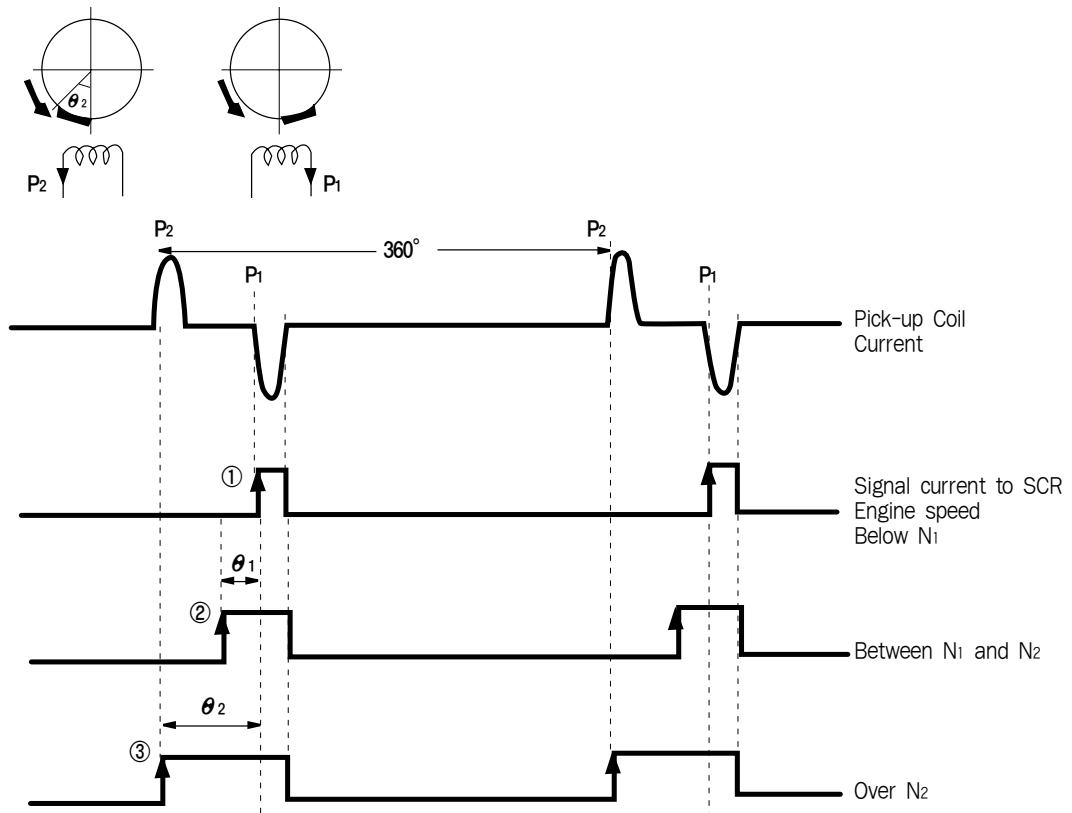

Fig. 2
When the engine is running slowly (N₁ r/min or less Fig. 3), control by the ignition timing control circuit is executed so that the ignition signal is generated at the time ①(Fig. 2) when the current (P₁) is generated and is sent to the (SCR). When the engine speed increases (N₁ to N₂ r/min), control is executed so that the ignition signal ② is generated between (P₁) and (P₂) according to the engine speed. At this time, the advance angle is (θ_1).